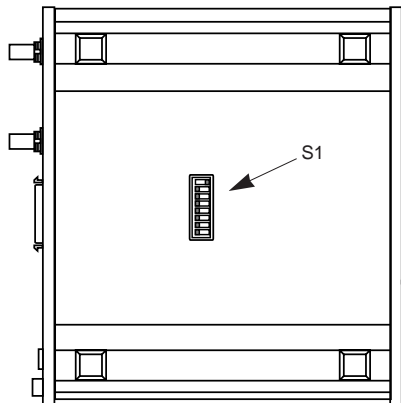
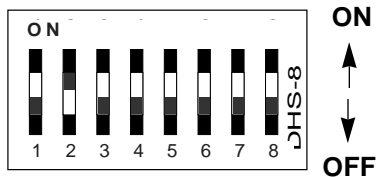

Figure 1. Underside of Model 2703, showing external DIP switch location
Figure 2. Close up of configuration switches
The Model 2703-X21's DIP switch set is located on the underside of the unit (see Figure 1, below). Figure 2 (below), shows the orientation of the switch set. All possible settings for the Model 2703-X21's switches are presented in the summary table and descriptions on the following pages. If you have additional questions regarding configuration, contact Patton Technical Support at (301) 975-1000.